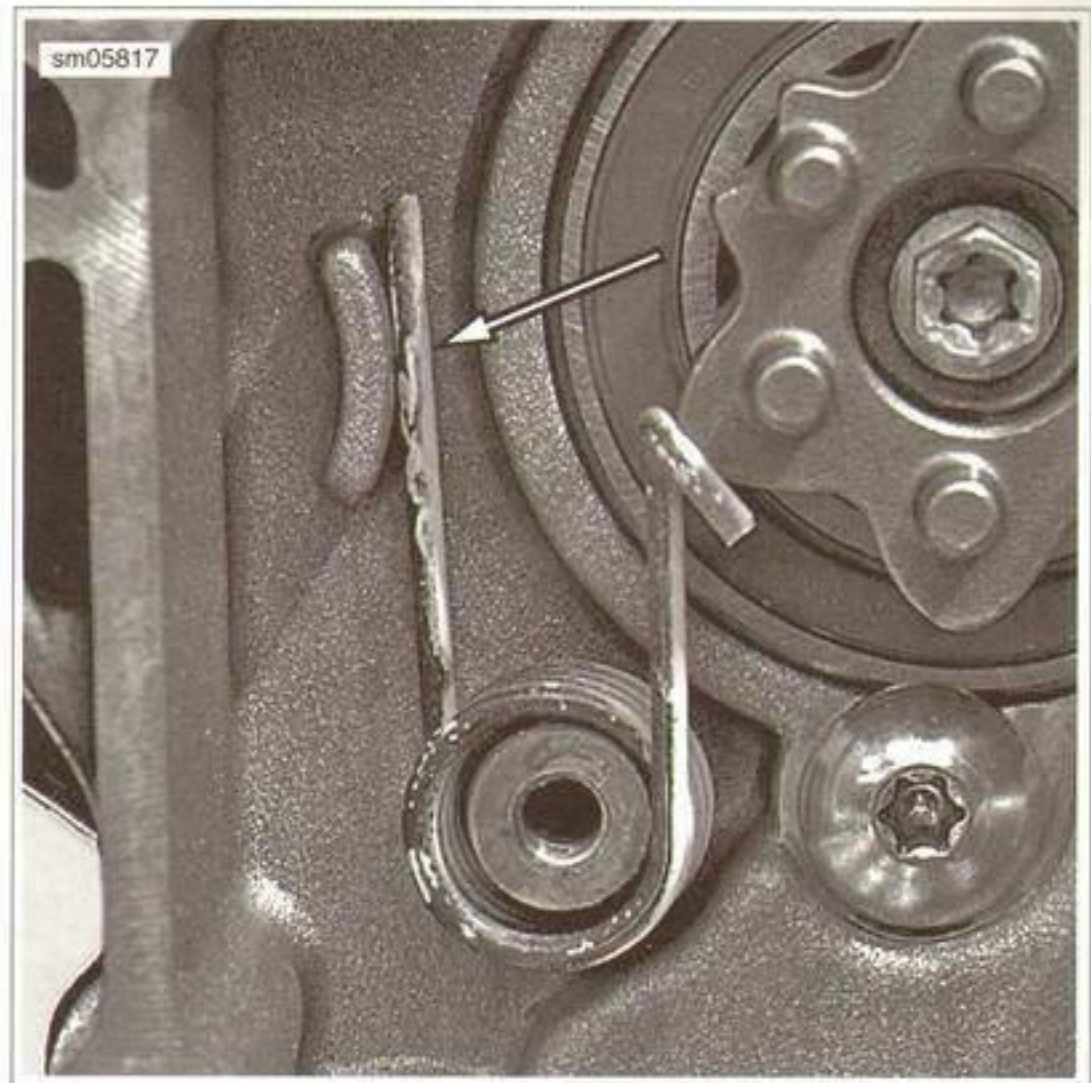

Figure 6-67. Spring Lever Arm in Front of Stop
2. See Figure 6-67. To install, position spring on crankcase bore.